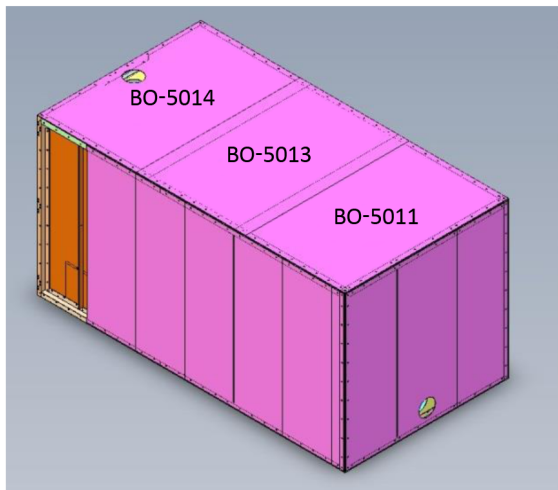

Figure 20
19) Install top panels BO-5014, BO-5013 and BO-5011 in the order that they appear starting with panel BO-5014. Each panel will overlap the other by a few inches. **See figure 20.**